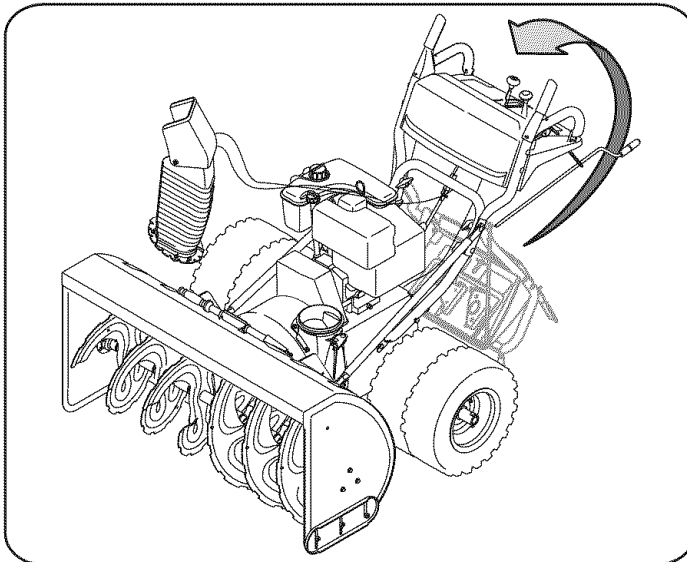

Figure 1
- b. Remove the lower wing knob and carriage bolt from each side of the upper handle. Pull up on upper handle as shown in Figure 1. Align upper handle with the lower handle. Again, make certain the springs at the lower end of the auger and drive cables are securely hooked into their respective actuator bracket. Also, remove any rubber bands securing the cables to the wing nuts.